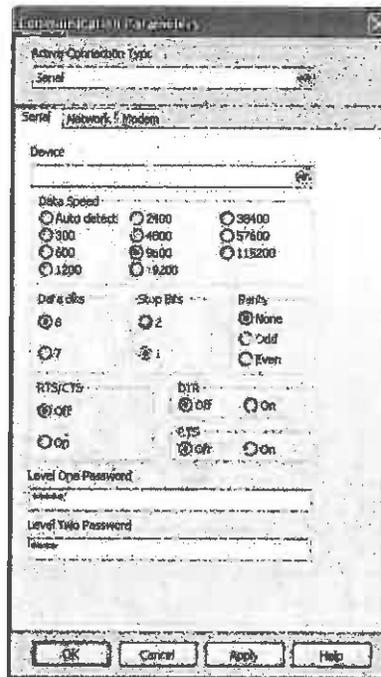

Figure 2.7 ACSELERATOR QuickSet Communication Parameters
Step 3. Activate the Communication Parameters window through the menu, toolbar, or by pressing <Ctrl+R>. Figure 2.7 shows the ACSELERATOR QuickSet Communication Parameters window.